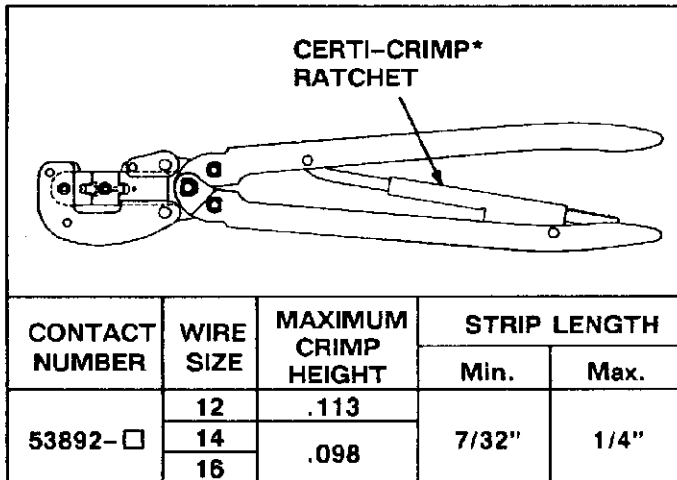

Fig. 1
1. Strip wire to dimensions listed in Figure 1. Do not nick or cut conductor strands.
2. Close handles until CERTI-CRIMP ratchet releases, permitting crimping dies to open. See Figure 1. Note that once ratchet is engaged, handles cannot be opened until they are first fully closed.